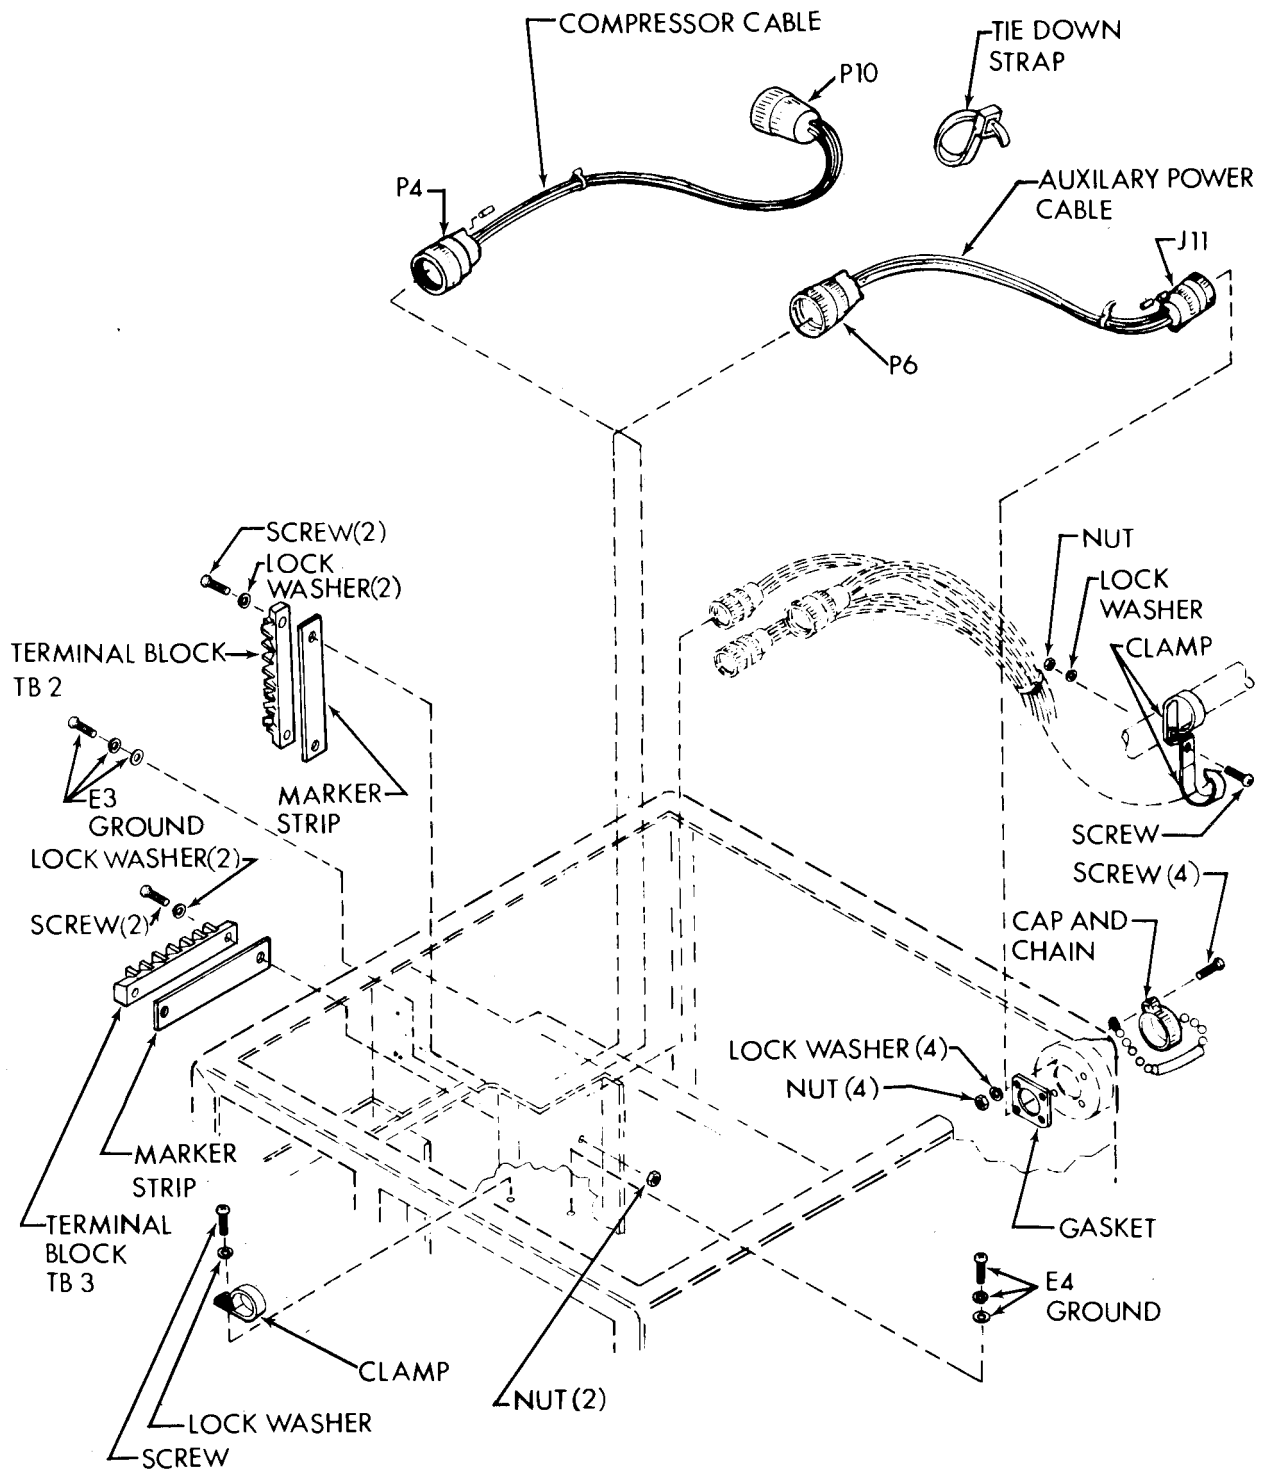

Figure 4-27. Miscellaneous Cables, Harnesses, and Terminal Boards
a. Inspect/Test. (See fig. 4-27.)
(1) Disconnect power at power source.